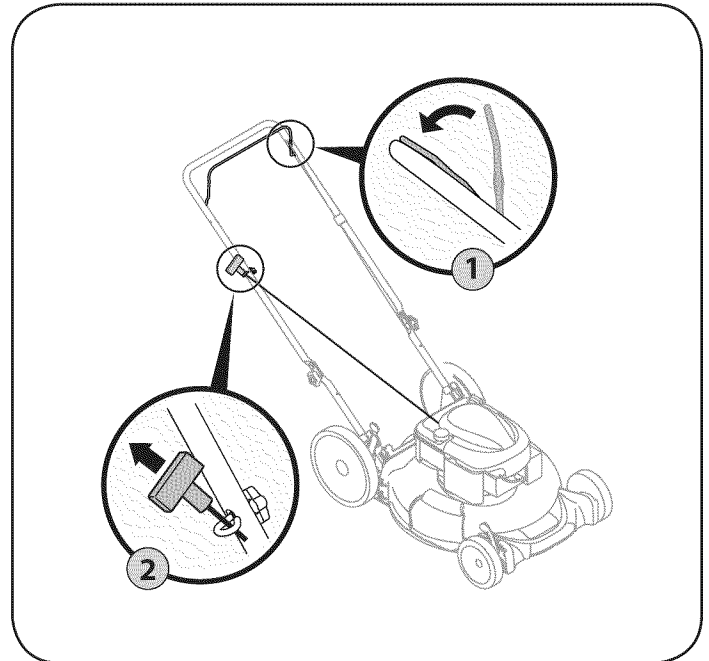

Figure 12
1. Standing behind the mower, squeeze the blade control handle against upper handle. See Figure 12.
2. Holding these two handles together firmly, grasp recoil starter handle and pull rope slowly until resistance is felt, then pull with a rapid, continuous, full arm stroke. See Figure 12. Keeping a firm grip on the starter handle, let the rope rewind slowly. Repeat until engine cranks. Let the rope rewind each time slowly.